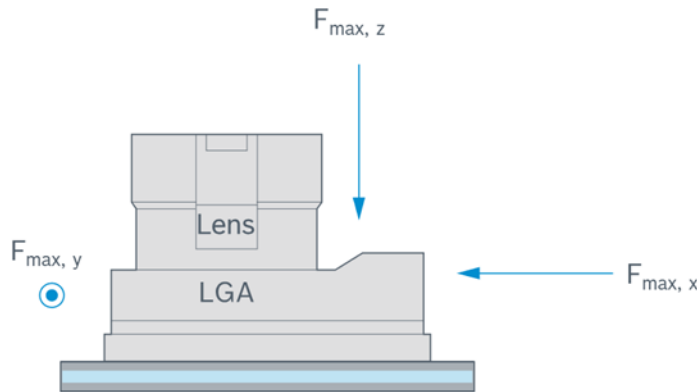

Figure 20: Maximum forces applied to the LGA package
- Maximum forces applied to the LGA package (Figure 20)